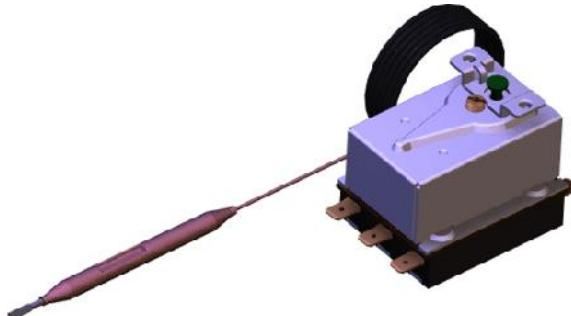

Figure 8
- Thermostats in the automation of the boiler (*Figure 8*)
As safety element thermostat is used as shown on figure 8, and it have function limit temperature of water in boiler, and its independent component. Temperature is limited to 90 degrees of Celsius. STB thermostat is located near display of automation, and its voltaic connected with it.